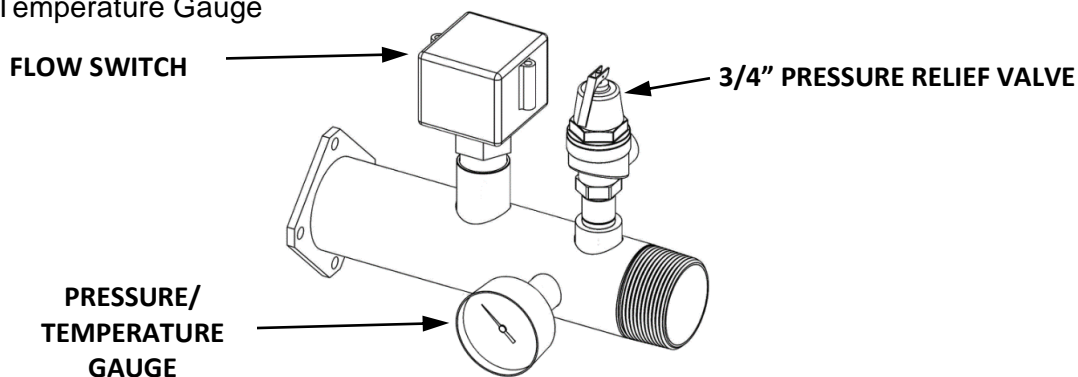

Figure 4-15: CSD-1 Manifold Assembly and Components
NOTE: When reversing hydraulic and gas pipe connections, you must close up the chassis openings vacated after the change. See Figure 4-15.
The Pressure Relief Valve is included separately in the shipping container. It must be fitted on the CSD-1 manifold at the site, per the instructions in the next section (see Figure 4-15).
3. Connect the Flow Switch and Pressure/Temperature Gauge to the tapped holes in the manifold assembly, as shown in Figure 4-15, above.